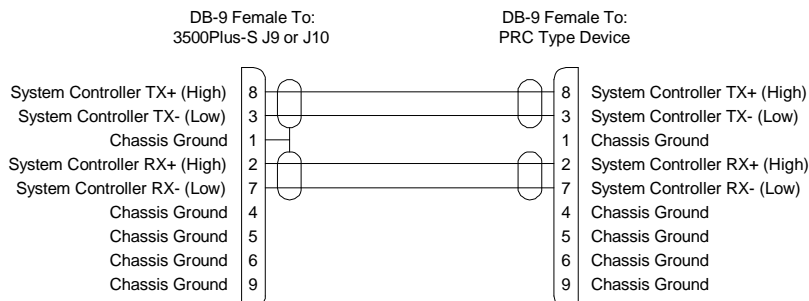

Figure 47: 3500Pro-D RS-422 Serial Cable
- COM 3/PRC is the communications interface to a PRC type routing switcher system and is connected to a routing switcher. If necessary, a cable up to 4000 feet in length may be fabricated in the field as shown in Figure 47. It contains the same physical connections as in 5-pin, PRC connector.
- COM 4 is an RS-422 CPU Link. The cable may be up to 4000 feet in length and an RS-422 interface card must be installed in the PC that has the 3500Pro software program. COM 4 may be used with any of the protocols shown in Table 4 on the previous page. If necessary, a cable may be fabricated in the field as shown in Figure 47.